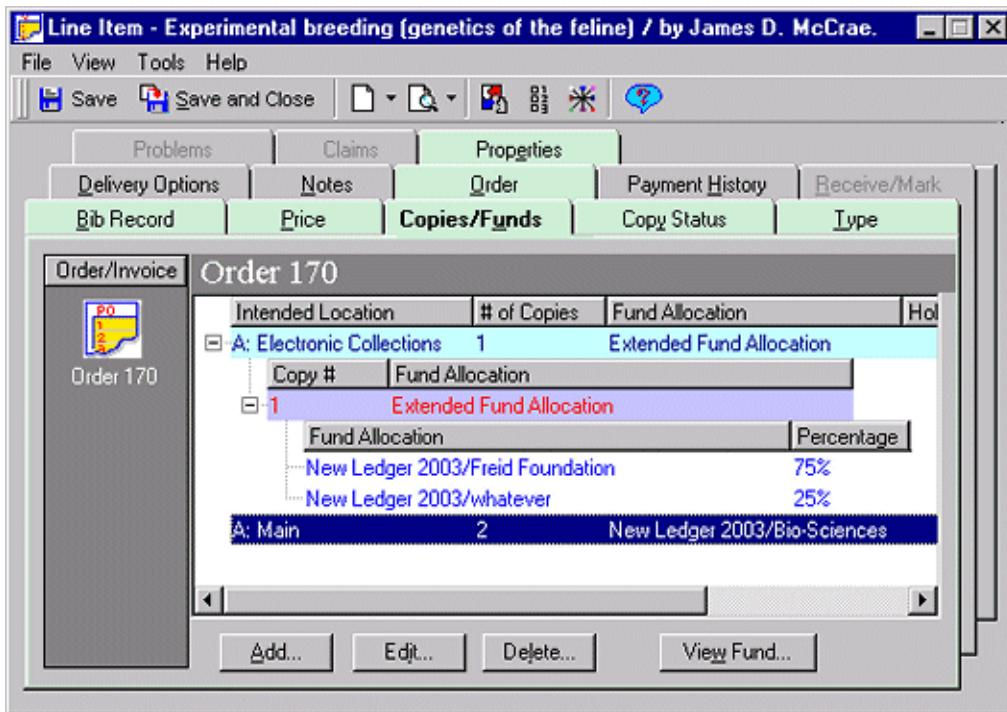

Figure 6-37. Copies/Funds tab, hierarchy
Once copies and funds have been defined and the **Copies and Funds** dialog box closed, the copies and funds display in a hierarchical structure (see Figure 6-37 on page 6-58.) This structure provides a consolidated display of all locations and funds.
5. If your entries are complete and you will not be using the Extended Fund Allocation feature, click the **Close** button to return to the **Copies/Funds** tab of the **Line Item** dialog box (see Figure 6-37). Otherwise, continue with Procedure 6-13, Editing extended fund allocations or Procedure 6-14, Adding an extended fund allocation.
Result: The fund's allocation is changed. The **Copies and Funds** dialog box closes, and all copies and funds for the item display in a hierarchical structure on the **Copies/Funds** tab of the **Line Item** dialog box (see Figure 6-37).
Result: An extended fund allocation is added to a copy. The **Copies and Funds** dialog box closes, and all copies and funds for the item display in a hierarchical structure on the **Copies/Funds** tab of the **Line Item** dialog box (see Figure 6-37).
The copy and fund information displays in a hierarchical structure on the **Copies/Funds** tab (Figure 6-37) after fund allocations have been completed.